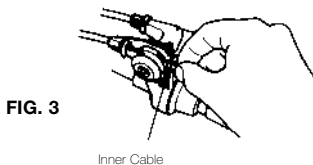

FIG. 3
3. Pull out the inner cable and replace it with the new inner cable (Fig. 3)